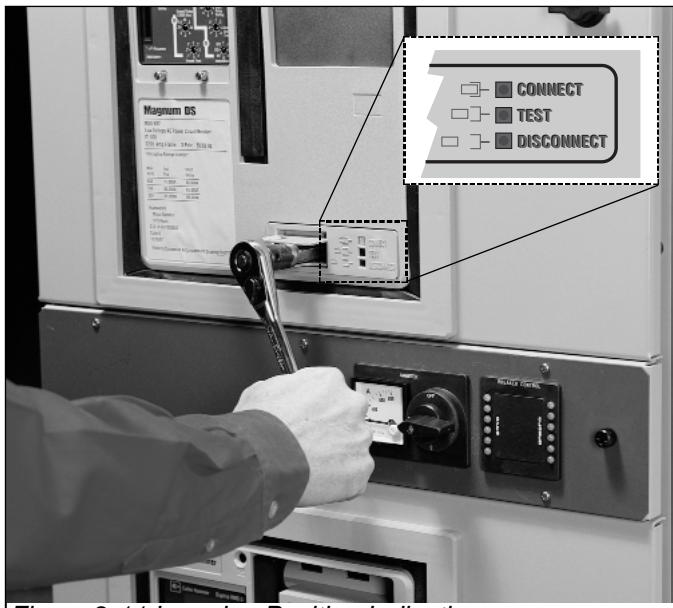

Figure 2-11 Levering Position Indication
The circuit breaker is now ready to be levered. With the circuit breaker OPEN, the levering device access door can be raised. The levering device is hand operated using a standard 3/8" square drive and ratchet, which is not provided (Figure 2-11). As long as the access door is raised, the circuit breaker is held trip free. Begin by rotating the levering-in screw to the full counterclockwise (DISCONNECT) position.
**The circuit breaker can be levered with the compartment door open or closed, but it is advisable to close the door prior to levering.** The position of the circuit breaker within its compartment is indicated by color coded position indicators (Red = Connect, Yellow = Test, Green = Disconnect) (Figures 2-11 and 3-5). To remove the circuit breaker from its compartment, follow the procedure just described using a counterclockwise ratcheting motion.